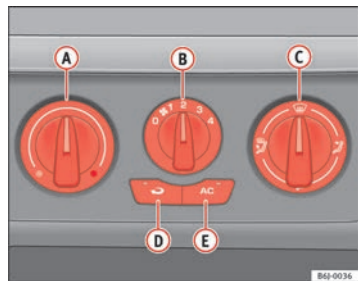

Fig. 93 Heating controls on the dash panel
- Using the controls ⇒ fig. 93 **A** and **C** and with the switch **B** you can adjust the temperature, the air distribution and the blower speed.